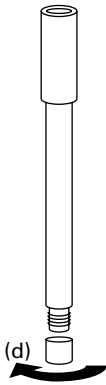

Fig. 2
3. Unscrew the membrane cap (d) from the outer body. See **Figure 2**. Remove the membrane from the membrane cap if a membrane was previously installed.